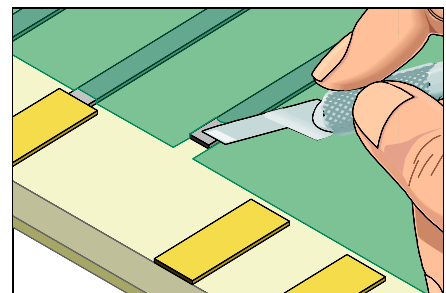

Figure 1: Remove the defective edge contact and remove solder mask from the connecting circuit.
2. Remove the defective edge contact and a short length of the connecting circuit. Heat from a soldering iron will allow the old contact to be removed more easily. (See Figure 1).
4. Scrape off any solder mask or coating from the connecting circuit. (See Figure 1).